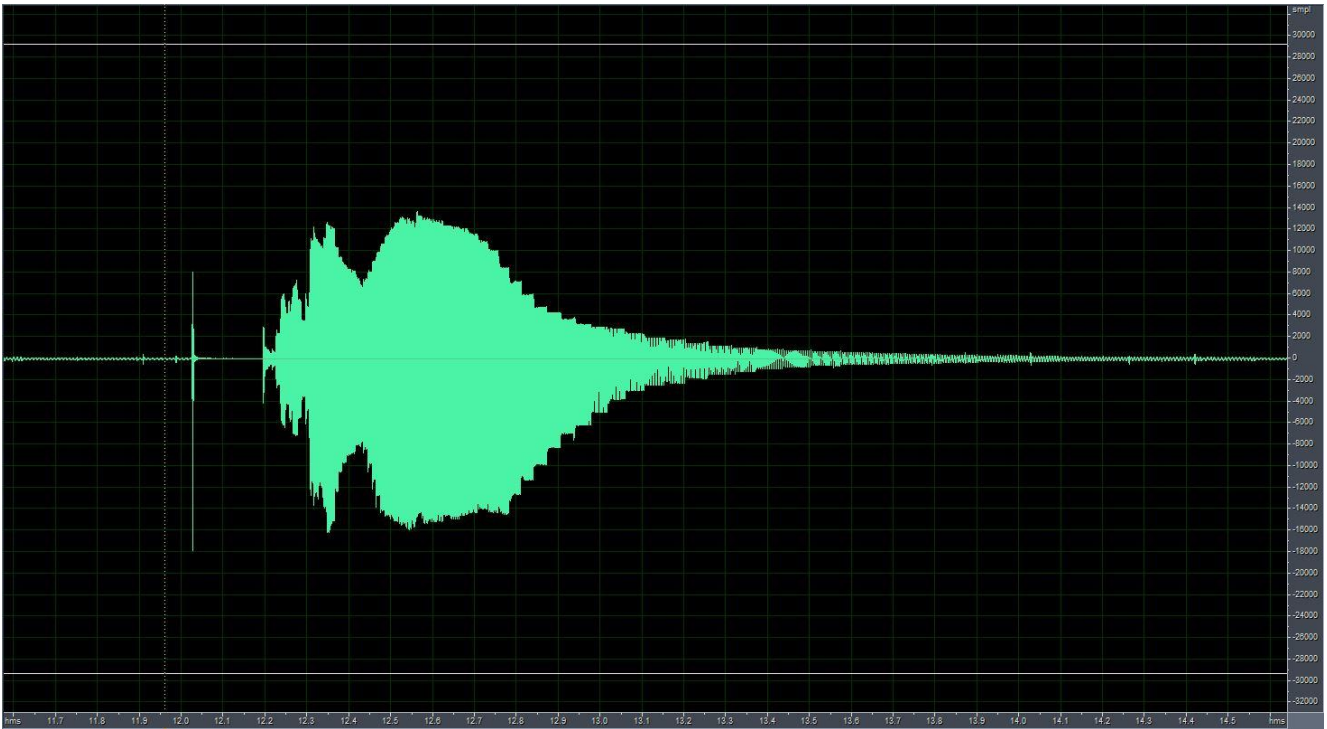

Figure 23: The Acoustic Echo record from microphone when playout sweep.
Step 1: open the Record5.wav, show as Figure 23. And high light the acoustic echo and transform to frequency